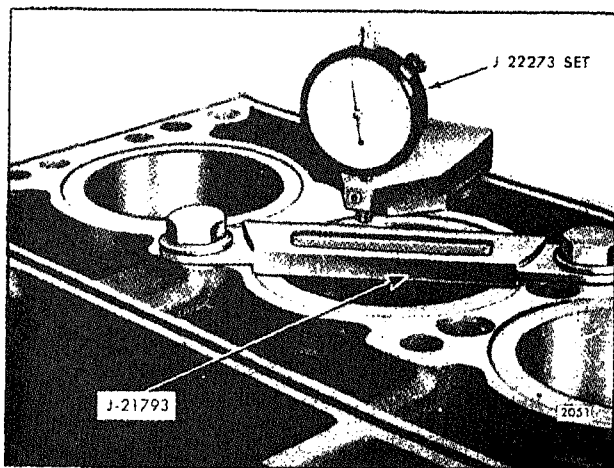

Fig. 7 - Checking Distance of Liner Flange Below Top Face of Block
3. Clamp the liner in place with hold-down clamp J 21793 and measure the distance from the top of the liner flange to the top of the block with dial indicator set J 22273 (Fig. 7). The top of the liner flange should be .0465" to .0500" below the top of the block, and there must not be over .0015" difference in depth between any two adjacent liners when measured along the cylinder longitudinal center line. If the above limits are not met, install the liner in another bore and recheck, or use a new liner.
3. If any of the pistons and liners are already in the engine, use hold-down clamps (Fig. 7) to retain the liners in place when the crankshaft is rotated.